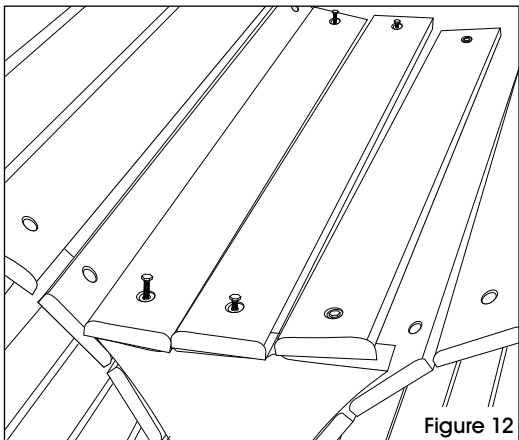

Figure 12
16. Attach the slats to the connector using the 2" lag screws and flat washers. (See Figure 12)
17. Carefully flip the receptacles and lay them on the opposite side. Attach the slats to the connector using the 2" lag screws and flat washers. (See Figure 12)